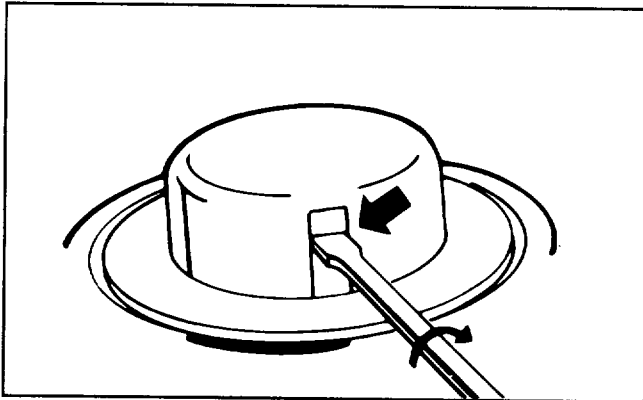

Figure 9
2. To remove empty spool, insert medium blade screwdriver in one of two window slots on spool hub and twist screwdriver 1/4 turn (Fig. 9). Spool will snap off.